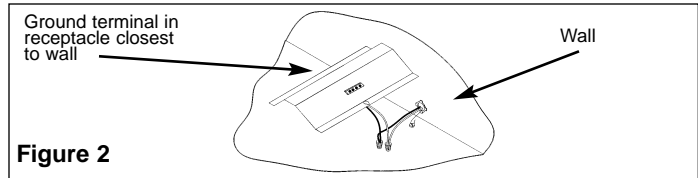
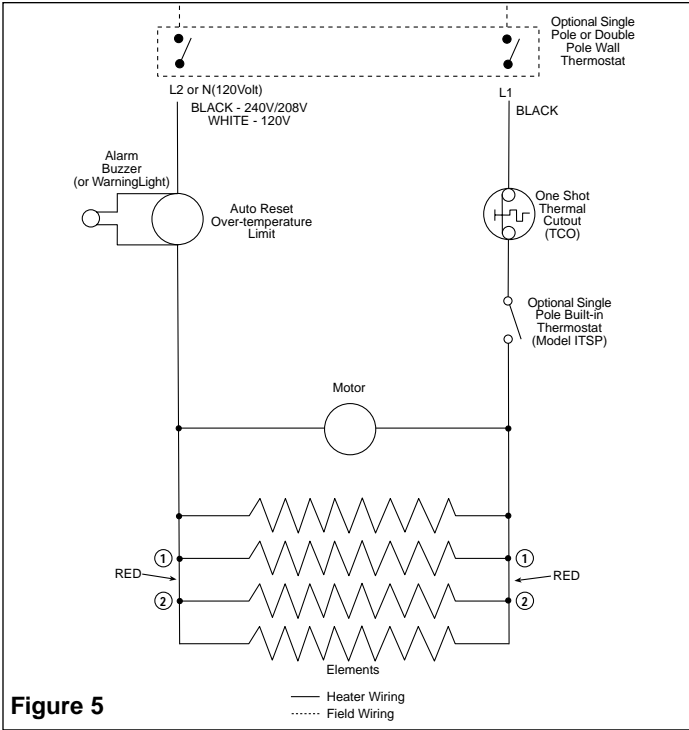

Figure 2
Figure 5
1. Bring supply wire into desired knockout, leaving 6" (152mm) of leads extending into the enclosure as shown in Figure 2.
3. For Model I1500, connect the white (neutral) supply lead to the white receptacle lead and the black line supply lead to the black receptacle lead as shown in Figure 2. (See also wiring diagram shown in Figure 5). For I1504 connect the two black supply leads to the two black receptacle leads. (See wiring diagram shown in Figure 5.)
4. Install junction box cover as shown in Figure 2.